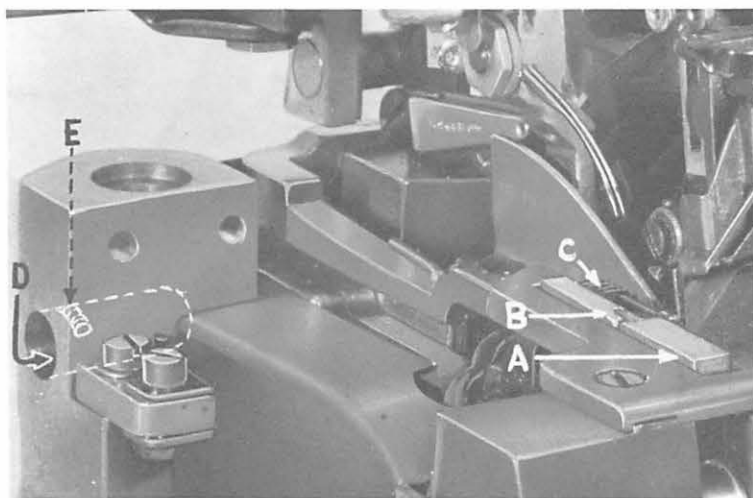

Fig. 10
Assemble and set the differential feed dog (A, Fig. 10) and main feed dog (B) so that top surfaces of the feed surfaces all lay in the same plane. This can be checked by sighting across feeding surface with a straight edge. Feed surfaces should now be leveled with the throat plate surfaces by rotating feed tilting adjusting pin (D). This pin raises or lowers the back end of both feed bars at the same time.